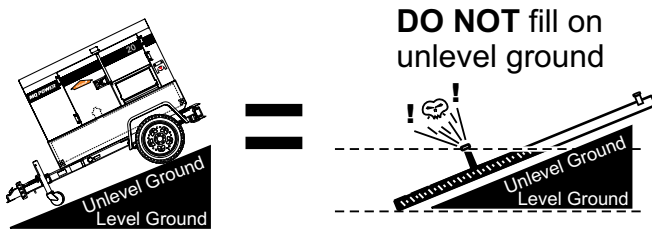

Figure 19. Only Fill on Level Ground
3. **Level Tanks** — Make sure fuel cells are level with the ground. Failure to do so will cause fuel to spill from the tank before reaching full capacity (Figure 19).